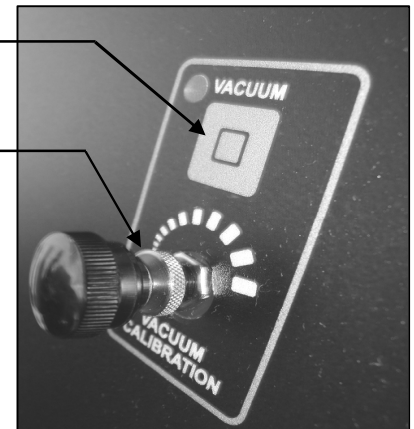

Figure 10
2. Push and release the VACUUM button on Tester's control panel. (Figure 10)
5. Locate Tester's vacuum calibration adjuster. (Figure 10)
6. Unlock the adjuster by loosening the knurled lock nut on the regulator's shaft. (Figure 10)
3. Press VACUUM switch on Tester's control panel. (Figure 10)